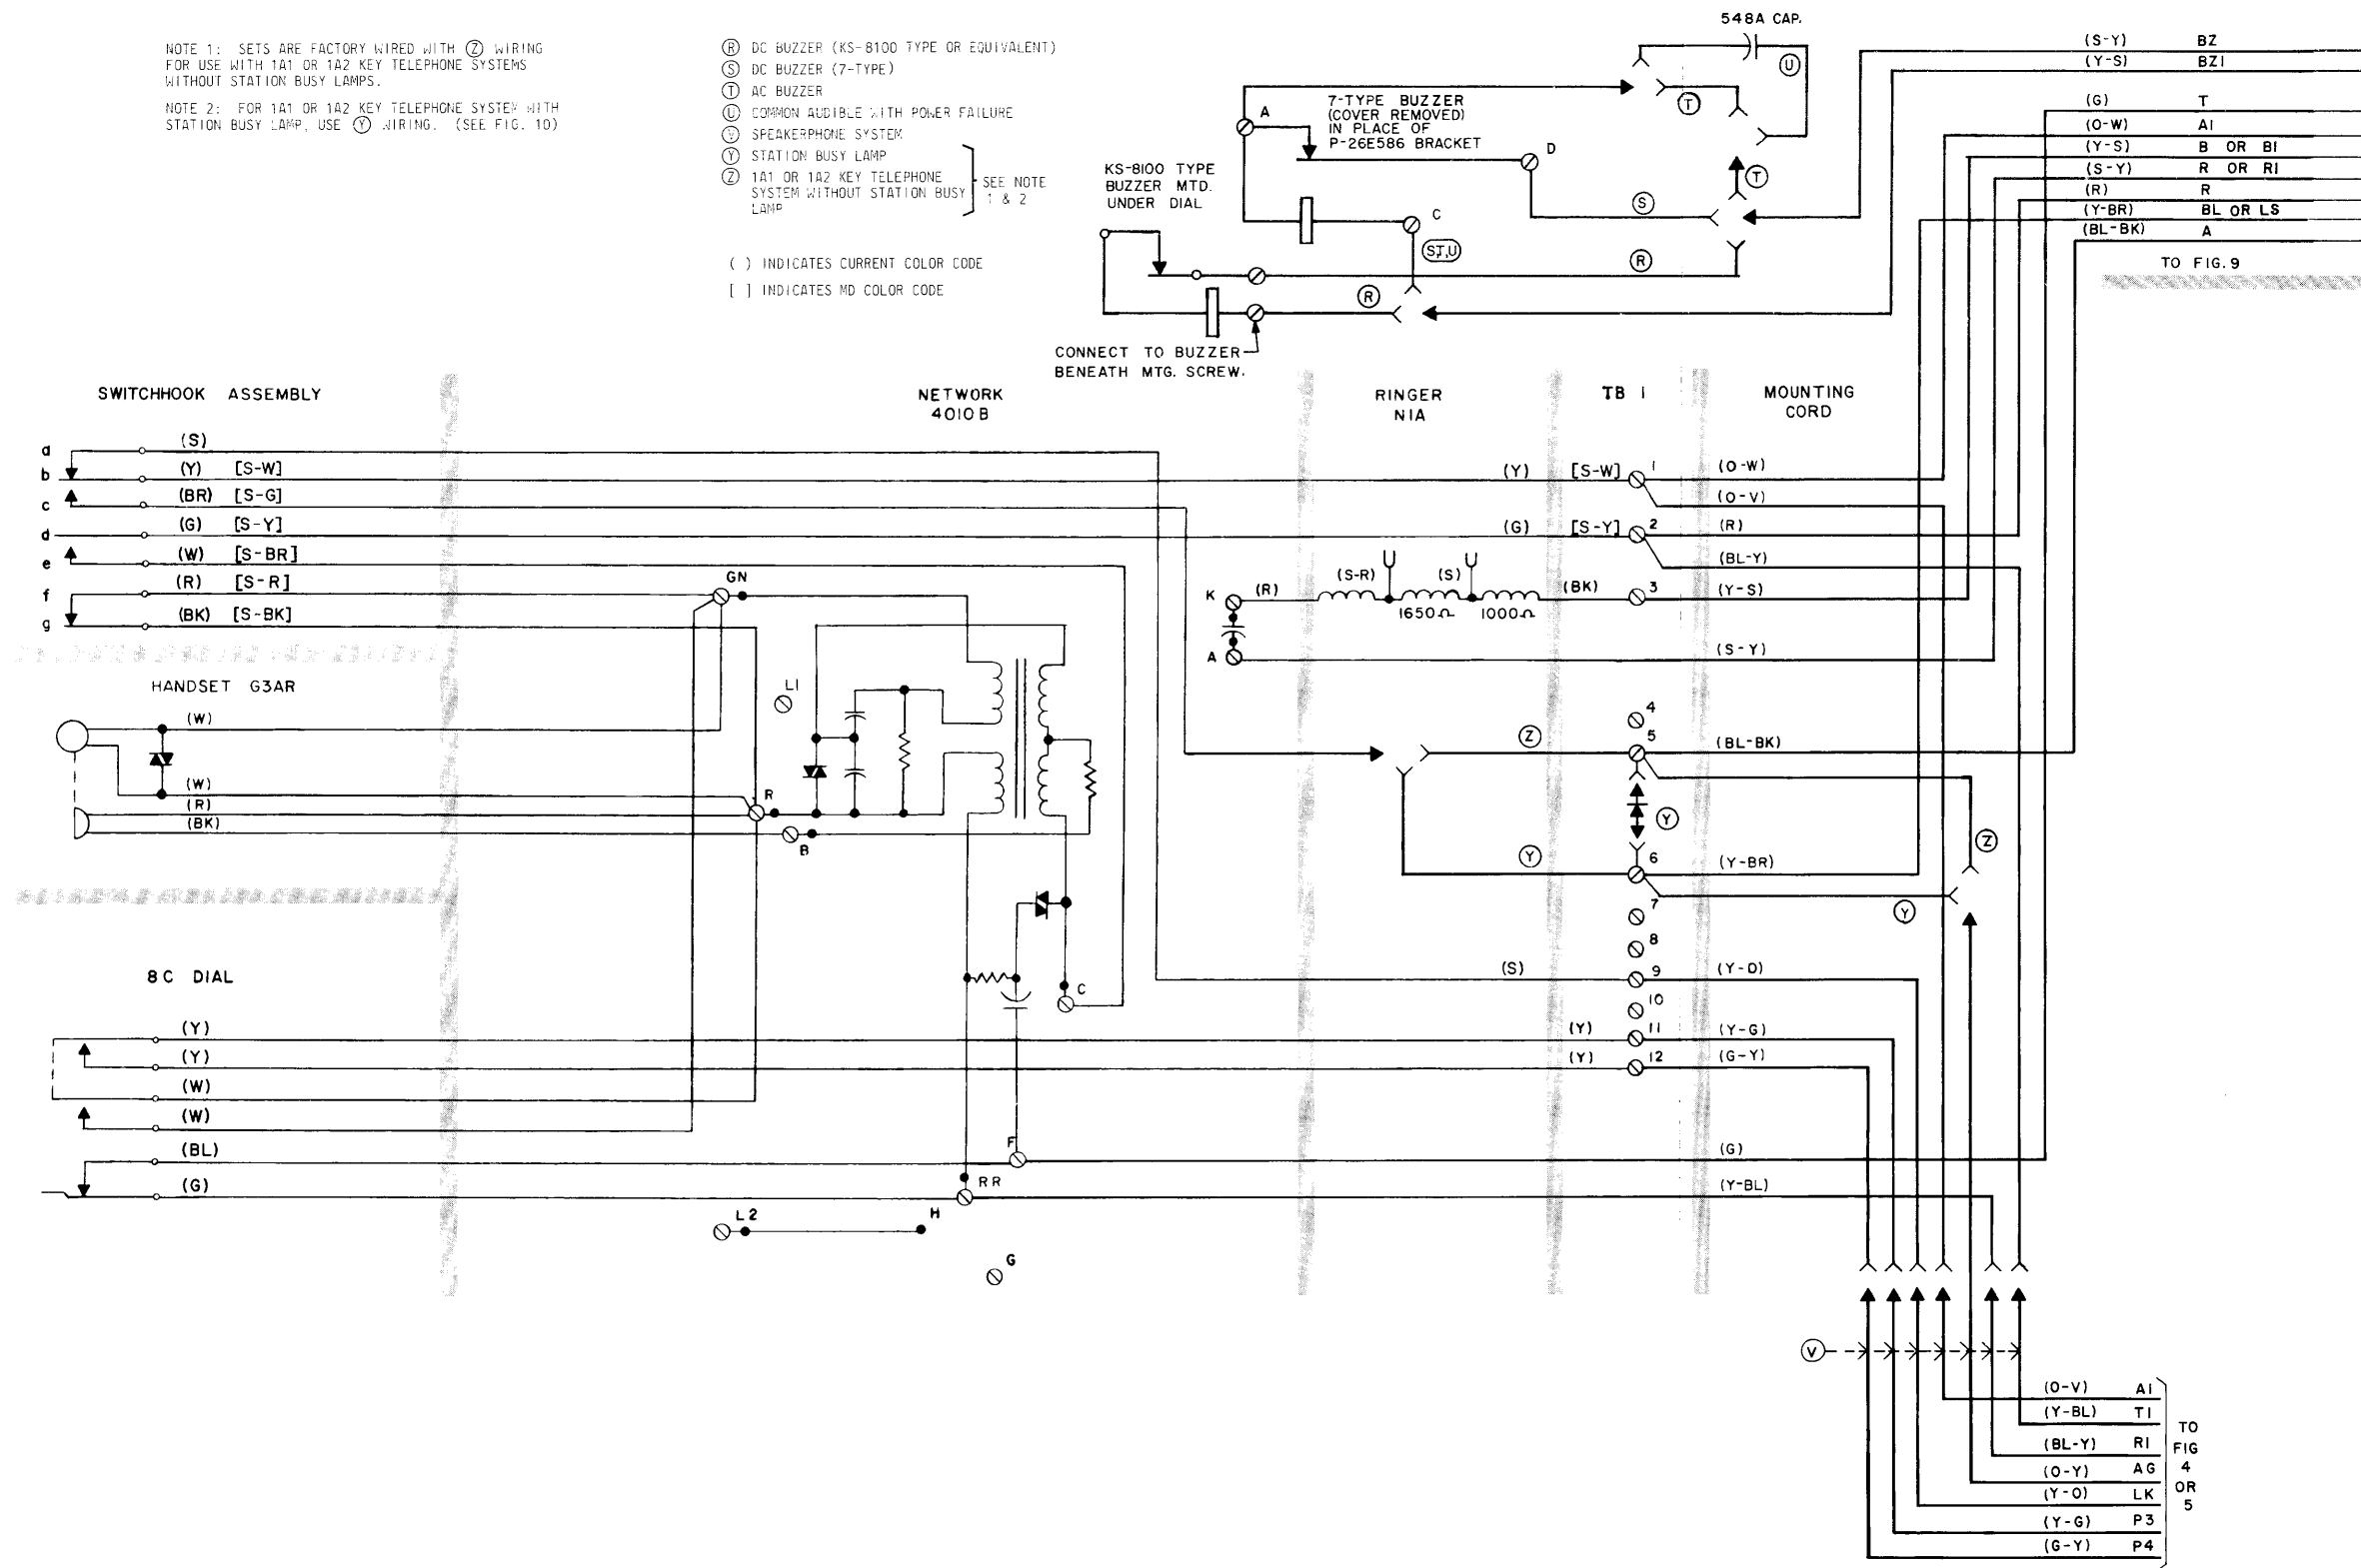

Fig. 8B-Telephone Set Circuit, 8C Dial
- (2) Switchhook lead colors on Fig. 8B, Page 13.